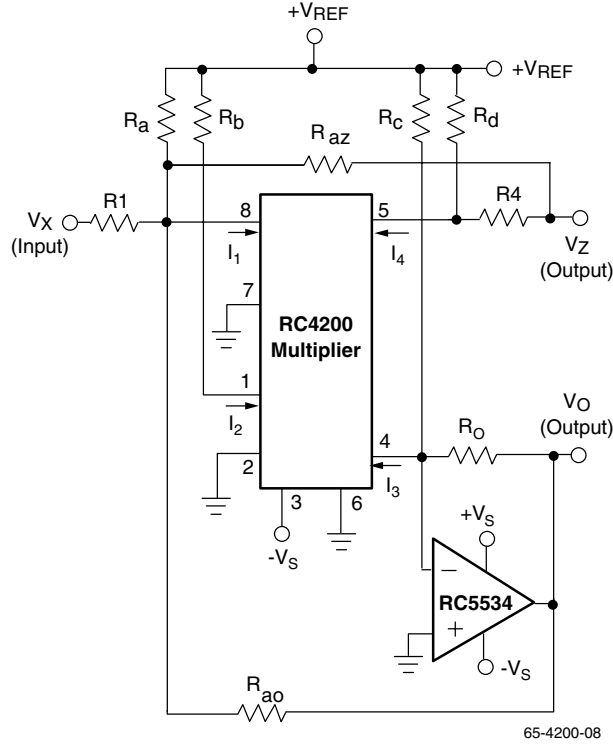

Figure 6. Extended Range Divider
- 1. Refer to Figure 6 for example.
- 3. These specifications apply with output (I3) connected to an op amp summing junction. If desired, the output (I3) at pin (4) can be used to drive a resistive load directly. The resistive load should be less than 700Ω and must be pulled up to a positive supply such that the voltage on pin (4) stays within a range of 0 to +5V.